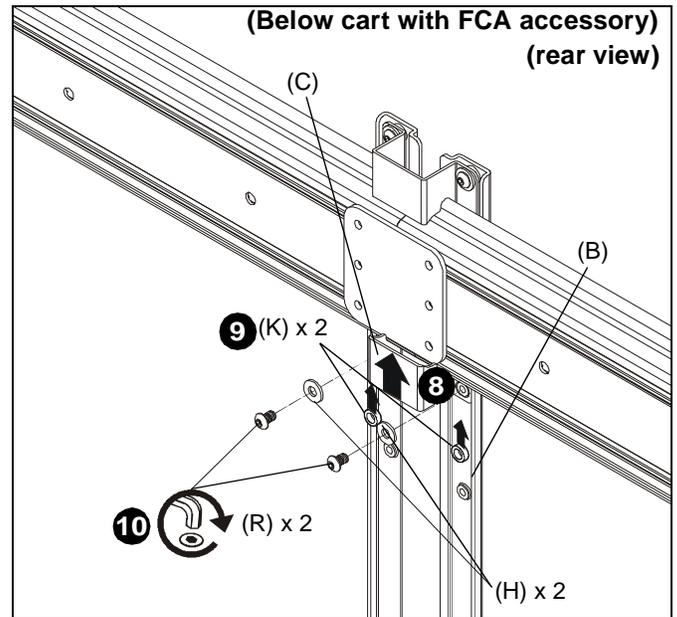

Figure 10
9. Slide two 3/5" spacers (K) in between shelf bracket (C) and main bracket (B). (See Figure 10)
10. Use two 1/4-20 x 7/16" button head cap screws (R) and two large washers (H) to secure shelf bracket (C) to main bracket (B). (See Figure 10)
8. Slide second shelf bracket (C) underneath head assembly, lining up holes on shelf bracket (C) to holes on main bracket (B). (See Figure 10)